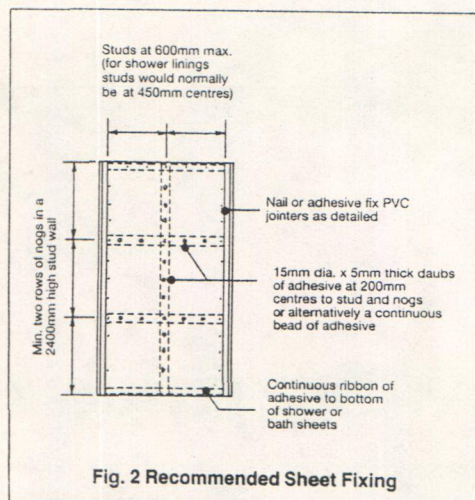

Fig. 2 Recommended Sheet Fixing
- Hardiglaze should not be fixed to timber framing with a moisture content in excess of 24% for non centrally heated buildings and 18% for those centrally heated. For stud and nog centres (Refer Fig. 2)
- Place daubs of wallboard adhesive on intermediate studs or battens and noggings at 200mm centres. (Refer Fig. 2)